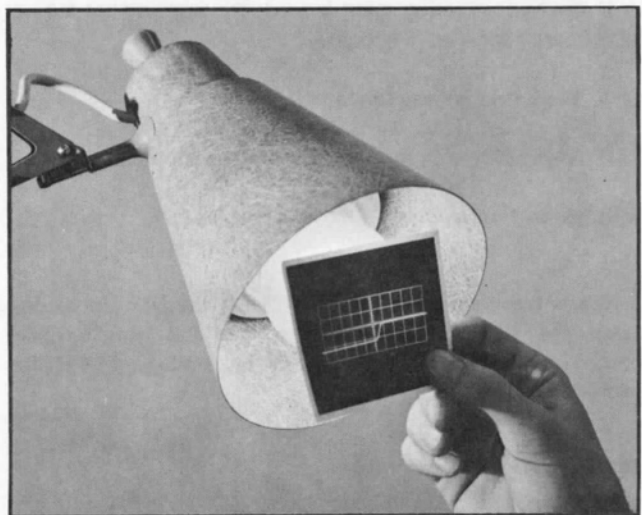

Fig. 3-14. Using transillumination to see otherwise invisible information.
**Transillumination.** While not strictly a means of improving writing speed transillumination permits you to better see information which is recorded on prints. In the technique of transillumination, the print is observed with a source of bright diffused light, such as a light bulb, directly behind the print (see Fig. 3-14). The light passing through the print brings out detail which would otherwise not be evident.